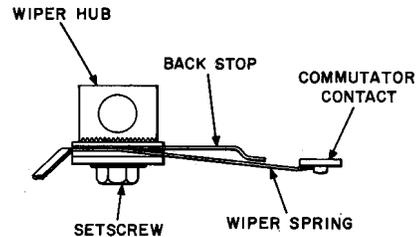
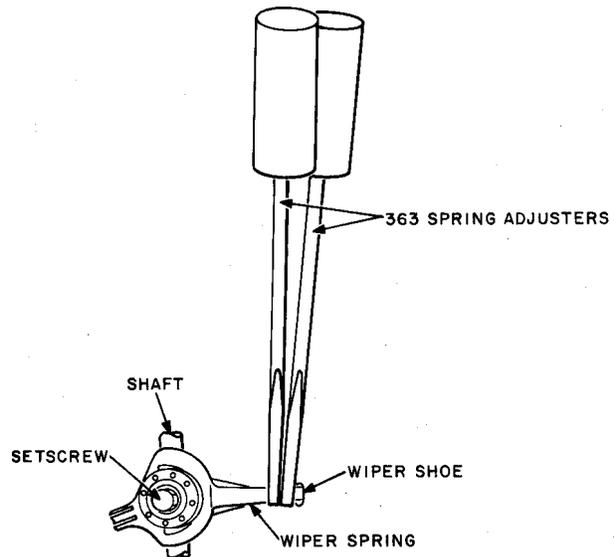

Fig. 17—Position of Commutator Wiper Spring on Commutator Contacts
Fig. 18—Method of Adjusting Wiper Shoe to Rest Approximately Flat on Commutator Contact
(6) When finally adjusted, the shape of the commutator wiper spring and its position on the commutator contacts should be as shown in Fig. 17. Adjust the wiper spring on the associated commutator contacts by changing the offset near the end of the spring with two 363 spring adjusters applied as shown in Fig. 18.